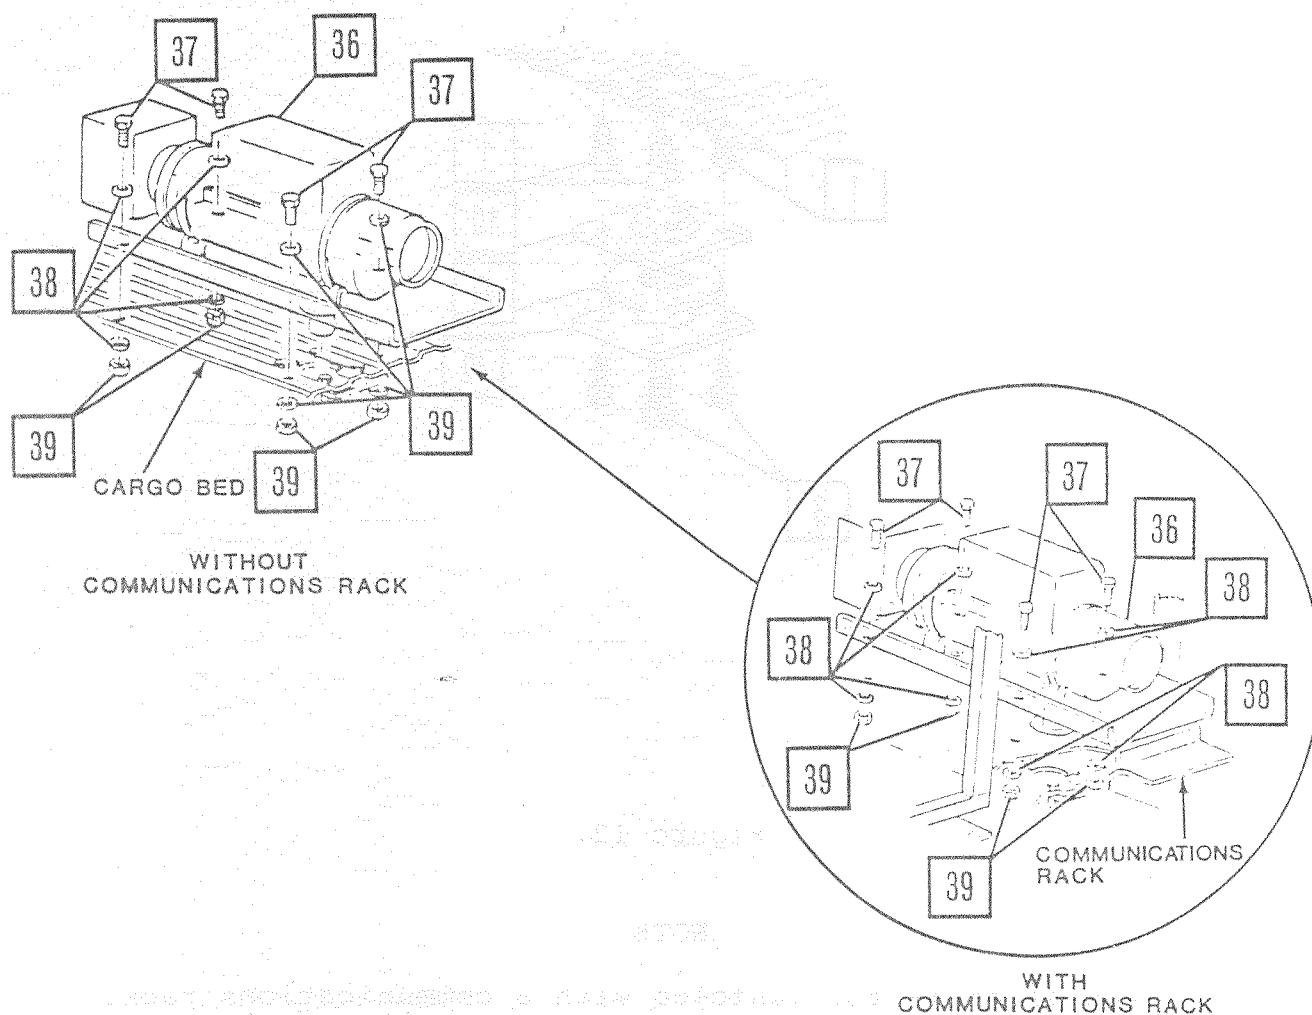

Figure 11. Mount heater to cargo floor.
38. Install heater in drilled holes in communications rack with nuts, bolts and washers (Figure 11.). Tighten bolts to 55-85 lb.-in. (6.0-9.5 Nm).
39. Without communications rack, mount heater directly to cargo floor with nuts, bolts and washers (Figure 11.). Tighten bolts to 55-85 lb.-in. (6.0-9.5 Nm).